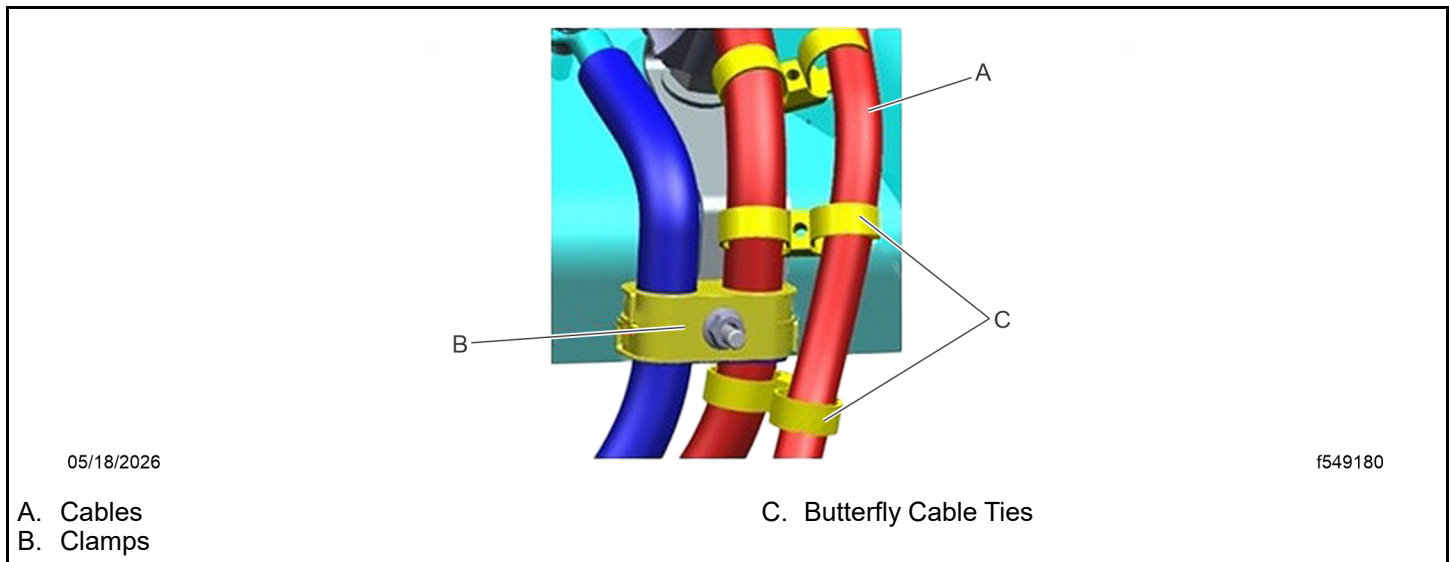

Fig 128, Butterfly Cable Ties Around the Cable Clamps
43. Install the upper and lower cable clamps on the isolator frame bracket. See Fig. Fig. 128.